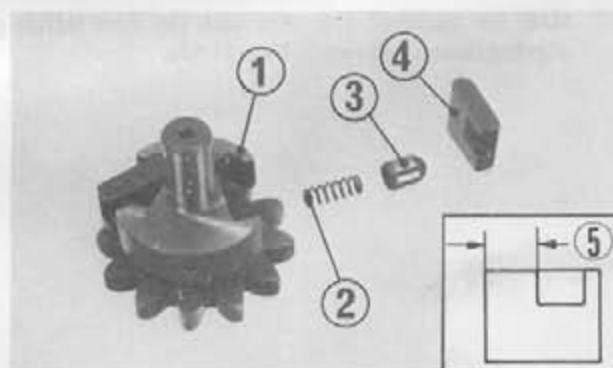

Fig. 3-48 (1) Drum shifter
(2) Neutral stopper arm spring
3. Install the ratchet pawl to the drum shifter as shown in Fig. 3-48. Check the ratchet pawl for proper operation and then install it to the drum.
Install the ratchet pawl with wider part facing the inside, as shown in Fig. 3-48.